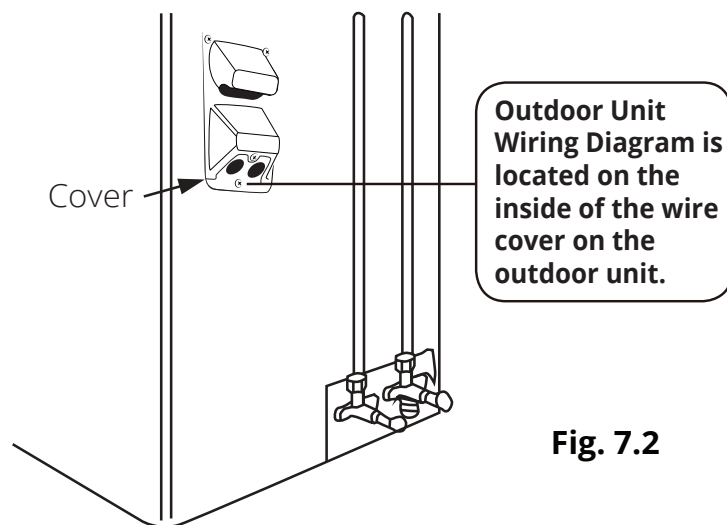

Fig. 7.2
1. Remove the screws from the electrical wiring cover from the outdoor condenser, as shown in the image below and **Fig.7.2**, and remove it.
ALL WIRING MUST BE INSTALLED STRICTLY IN ACCORDANCE WITH THE WIRING DIAGRAM LOCATED AS SHOWN IN FIG. 7.2.